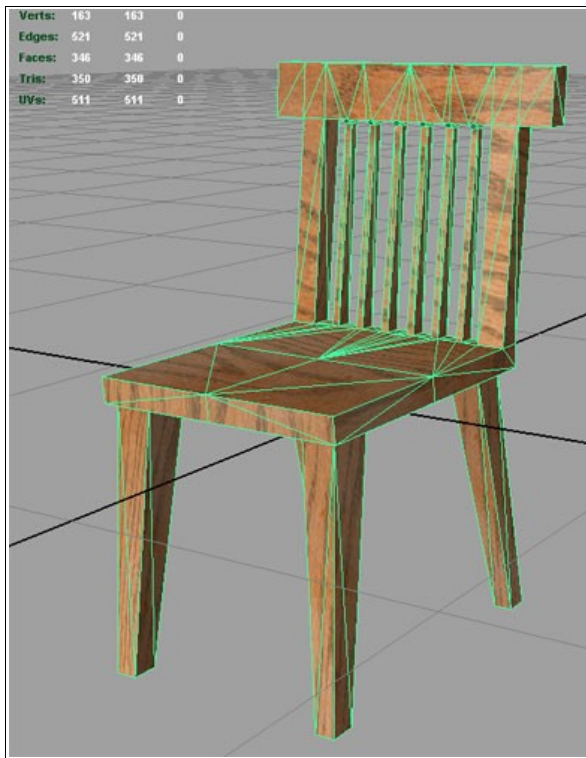

Figure 1
3. Create a polygon model of a chair such as Figure 1 (about 350 Tris)